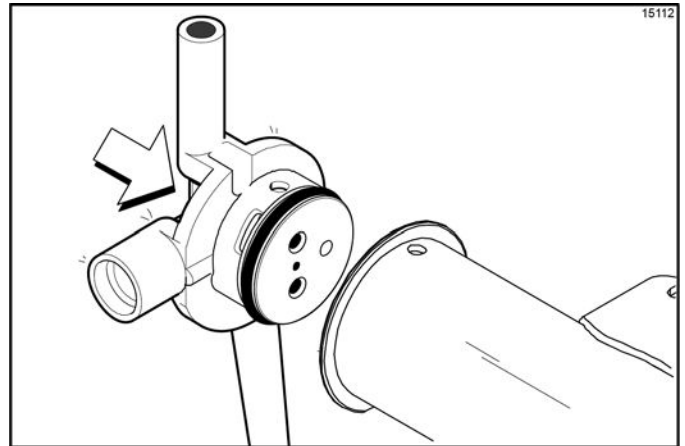

Figure 6-41
8. Insert the mix inlet assembly into the pump cylinder. (See Figure 6-41.)